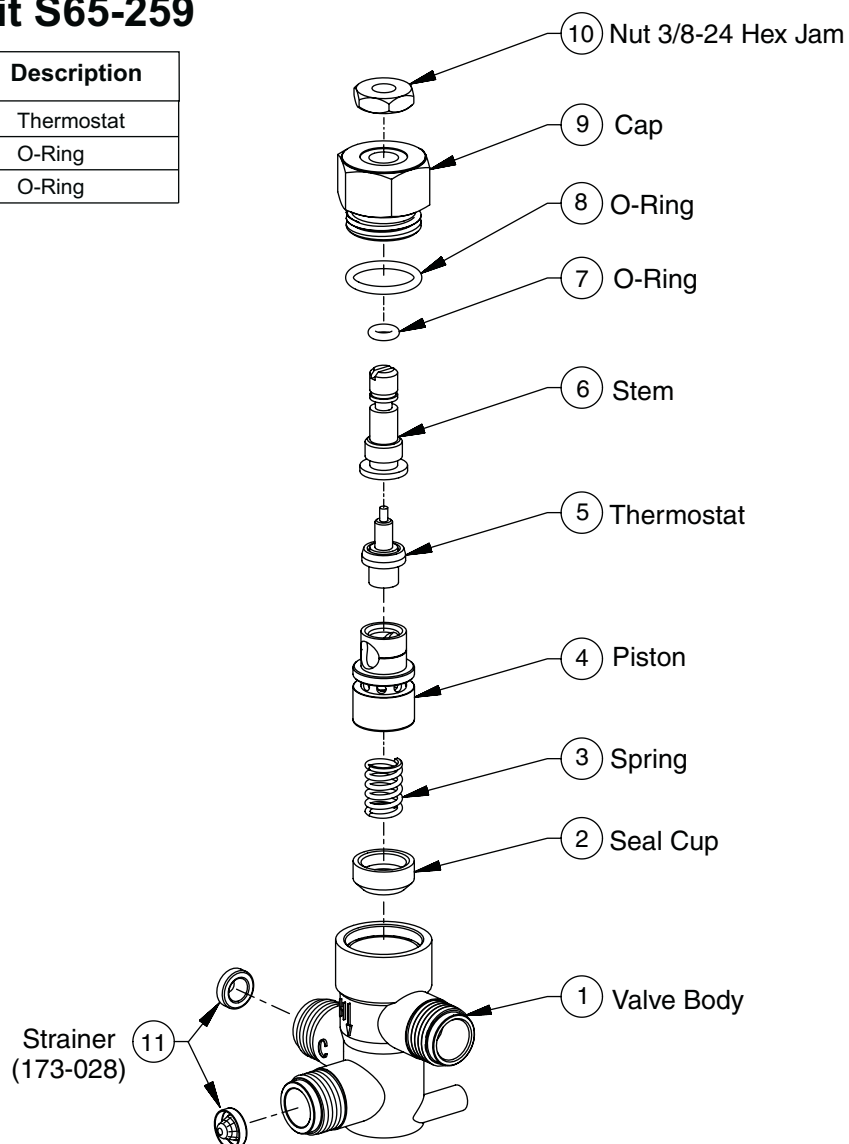

Figure 13
1. Remove the valve's cap and thermostat (see Figure 13 on Page 24).